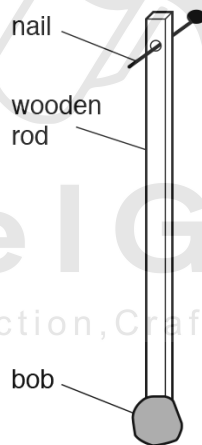

Fig. 4.1
- a piece of modelling clay to act as a pendulum bob, as shown in Fig. 4.1
You may add to Fig. 4.1 or draw an additional diagram if it helps to explain your plan.